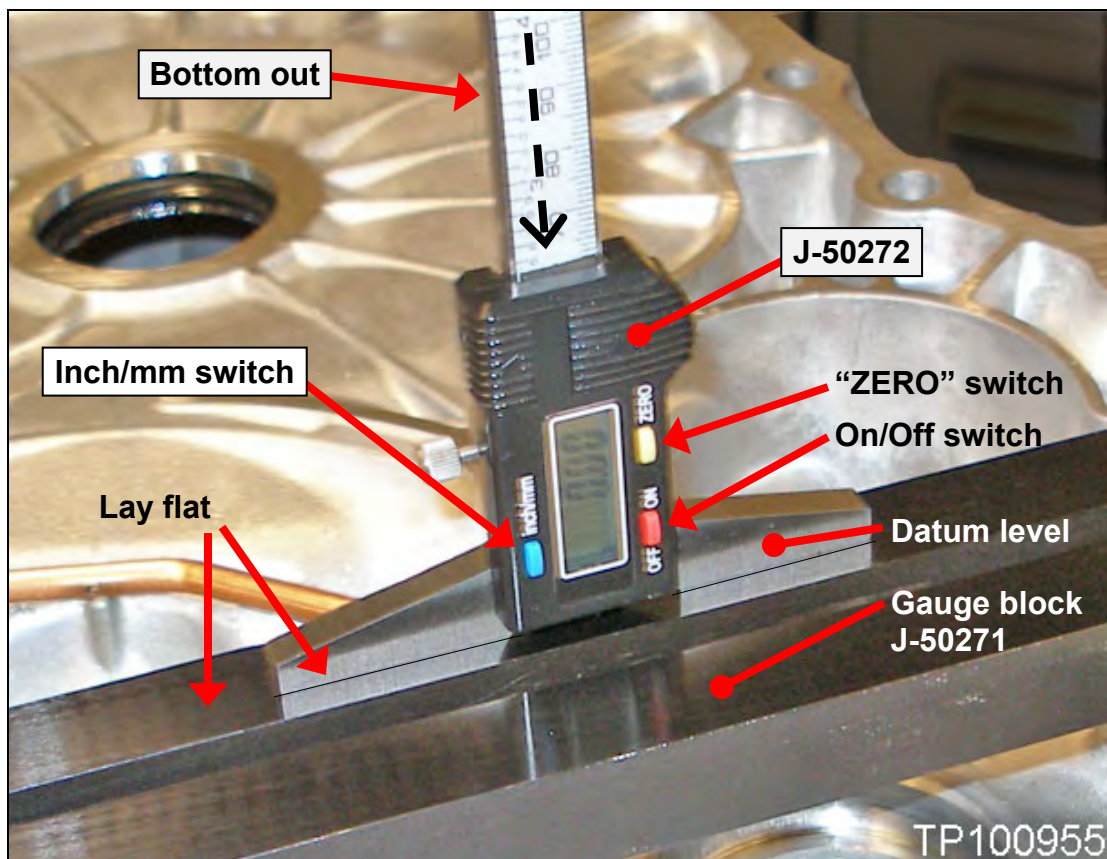

Figure 17
1. First, calibrate Digital Depth Gauge J-50272. For step 1a – 1d, refer to Figure 17.